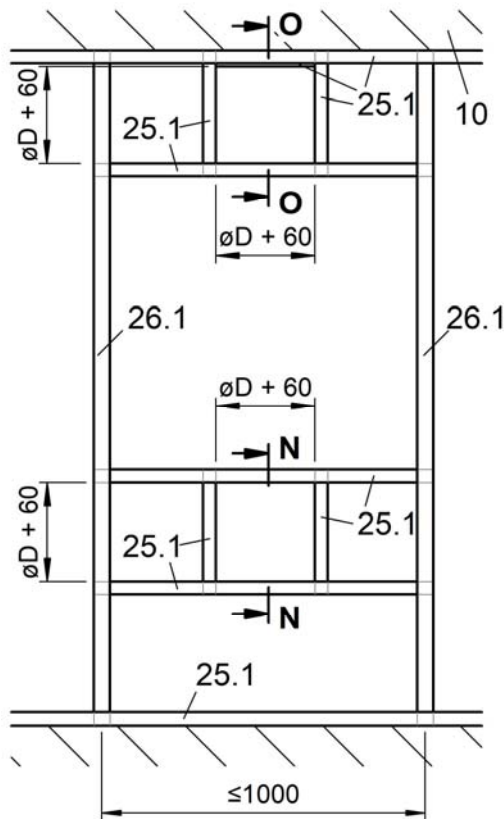

Figure 61: Metal posts plus required exchange parts (shaft wall) for wet installation (BSK-RPR 100 to ≤ 250)
- Mount the metal posts and the wall in accordance with the specifications of the wall manufacturer and the required exchange parts as shown on Figure 61.
- Mount the wall panelling (pos. 24.1) and double-board layer (pos. 34.2) and drill the installation opening for installation of the BSK-RPR.
- If desired, mount a filling stop on the non-operating side of the BSK-RPR (pos. 1) (Must not be screwed to the housing of the BSK-RPR! - The filling stop is not required by fire protection regulations).
- Carry out the joint filling with the jointing material of the wall (pos. 33). The connection and butt joints of the double-board layers must also be filled with the jointing material of the wall.
- Mount the metal posts and the wall according to the wall manufacturer's specifications and provide the exchange parts as shown on Figure 61 (mount the wall UW-profile (pos. 25.1) on the ceiling and attach the UW-profile necessary for the circumferential metal profile frame in the ceiling area).